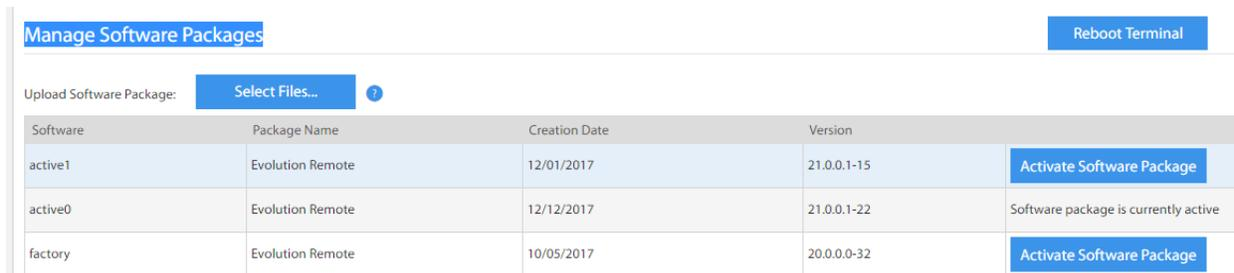

Figure 2-19. Manage Software Packages
2. Under **Manage Software Packages** (see Figure 2-19.), click **Select Files** and browse to the location where the packages are stored on the local system and click **Open**. The upload progress is seen on the right-hand corner. The software package will be uploaded and listed under **Upload Software Package**.